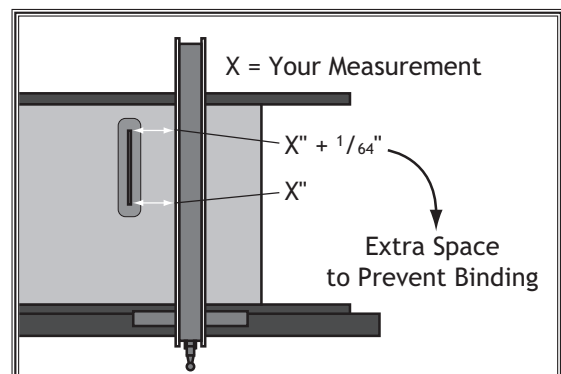

Figure 107. Adjusting fence with a $\frac{1}{64}$ " offset.
*Optional: Some woodworkers prefer to offset the rear of the fence $\frac{1}{64}$ " from the blade, as shown in **Figure 107**, to help prevent the workpiece from binding and burning.*